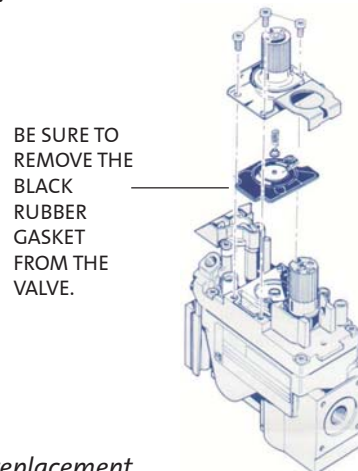

Figure 32. Valve Regulator replacement.
- 7. Change the Regulator:** See Fig. 32.
Install the optional Brick Panels before placing the Logset. Place the panels in position in the order as numbered in Fig. 32. No fasteners or tools are required.